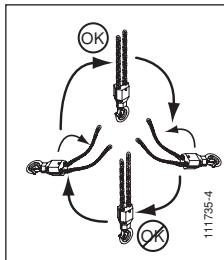

Fig. 4
2. Check that the load chain has not been subjected to any torsion when setting up, in particular for the two-strand version (see fig. 4).